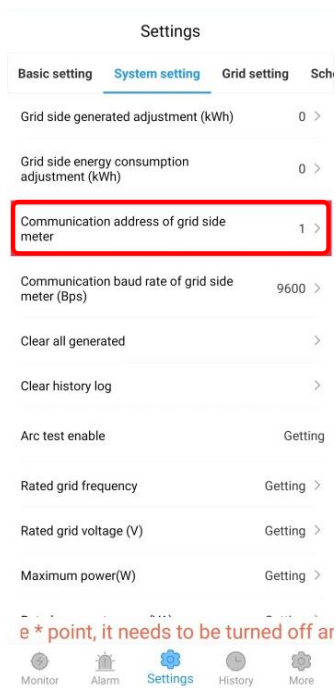

Figure4-39 Set the address
Step 3 Set the address of meter in "System setting - Communication address of grid side meter". The default setting is 1, as shown in Figure4-39.